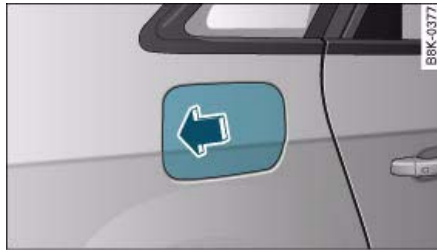

Fig. 247 Vehicle as seen from the rear right: Opening fuel tank flap
- Press the left side of the flap to open it ⇒ fig. 247 -arrow-.